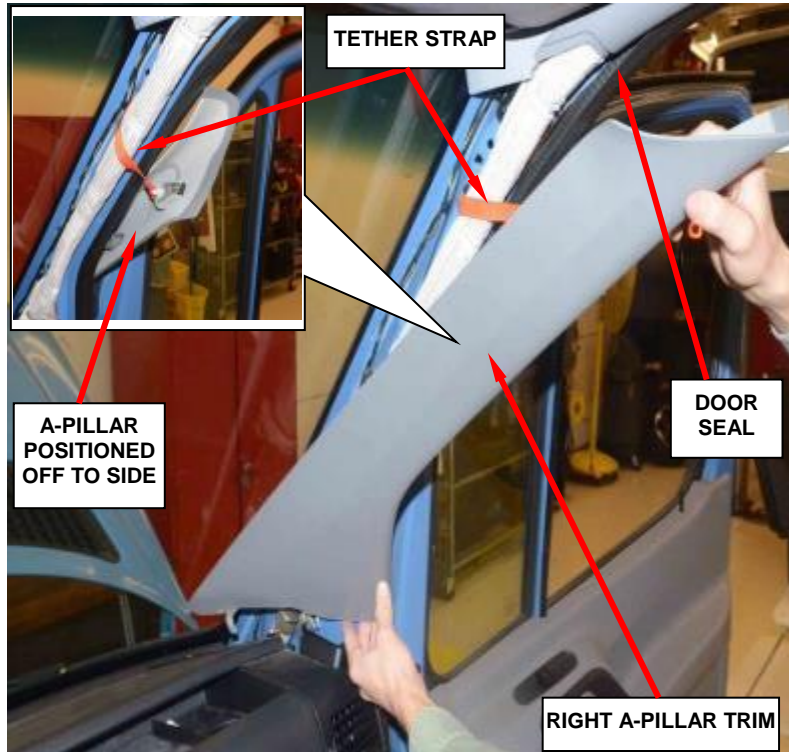

Figure 6 – Right A-Pillar Trim
- 8. Partially remove the right front door seal near the A-Pillar (Figure 6).
- 9. Remove the right A-Pillar trim and position off to the side (Figure 6).
35. Install the A-Pillar trim panel (Figure 6).